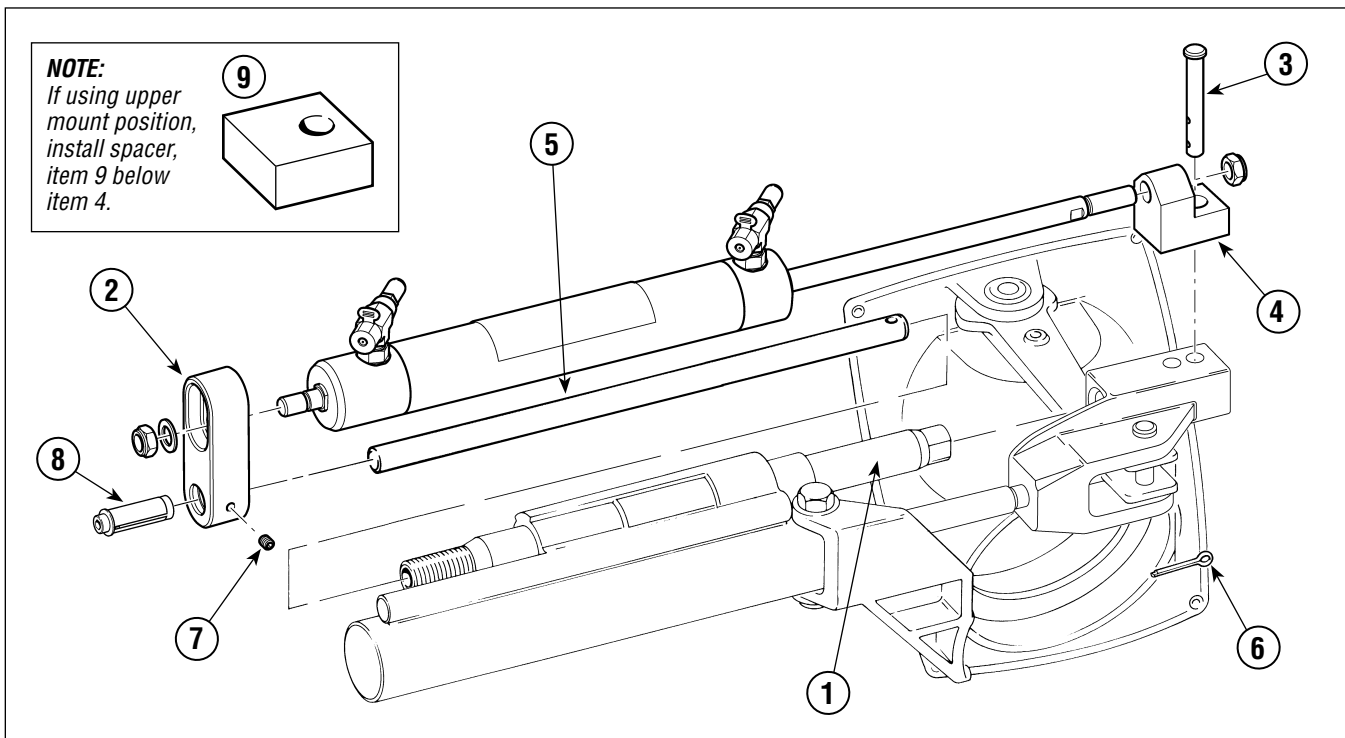

Figure 11. HC5331-3 (92-VPS), **NOT for use with SeaStar PRO helm(s).**
Referring to Figure 11 please observe the following:
**Cut Clevis Pin, (item 3 Figure 11) to a length of 2" when mounting cylinder in lower position.**